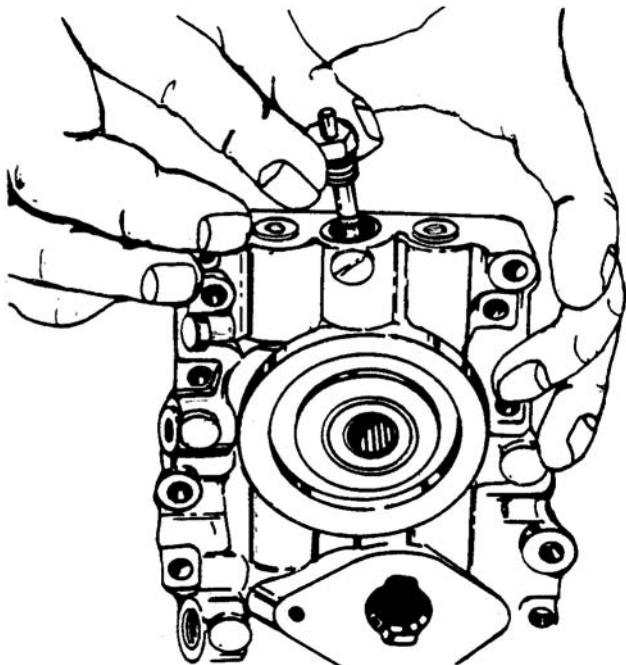

Figure 6-74. Installation of Bypass Valve
b. Install spring, bypass spool and plug in that order. See Figure 6-74.